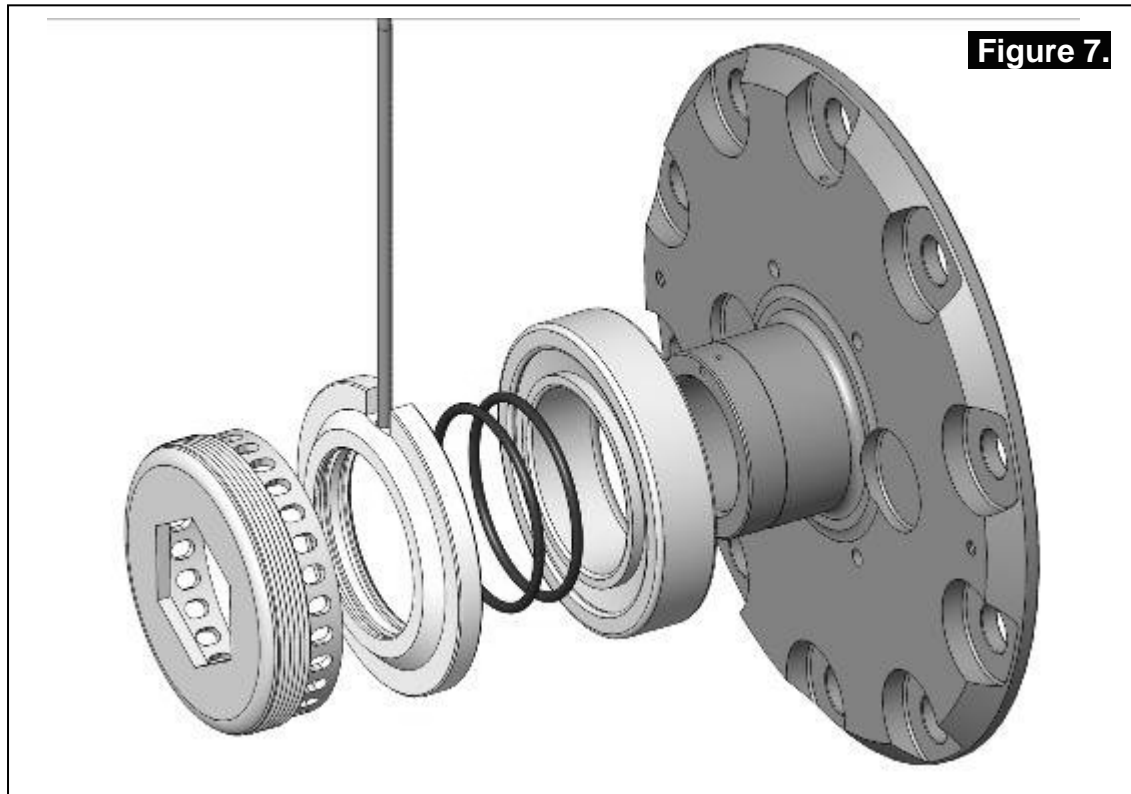

**Figure 6.**
- Mark a spot on the top of the outside of the differential housing that will be clear of the ring gear position once the seal housing tube has been installed. (Fig.6.)